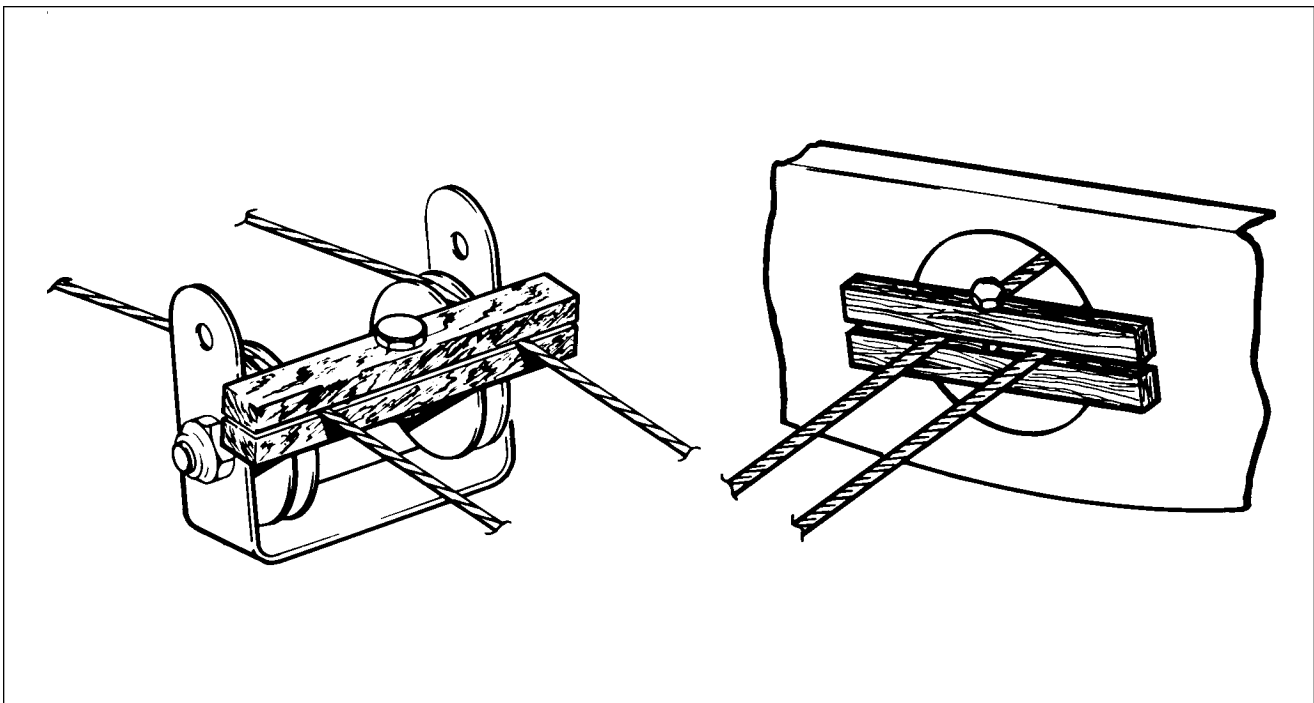

Figure 55-1. Methods of Securing Control Cables
4. Install cable blocks, as illustrated in Figure 55-1, on the stabilator trim control cable at the first set of pulleys forward of the cable turnbuckles to prevent the forward cable from unwrapping.